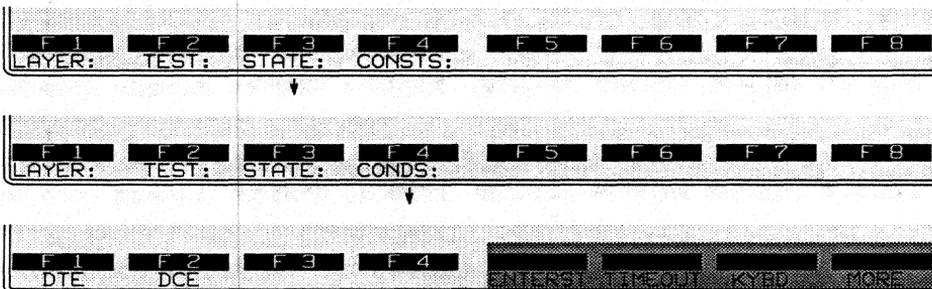

Figure 40-4 The softkeys for *DTE* and *DCE* are used to monitor ISDN protocol events once *Layer: 3* has been entered on the Protocol Spreadsheet.
- A group of conditions and actions at Layer 3 on the Protocol Spreadsheet that facilitate ISDN programming. Figure 40-4 shows the softkey path to the first rack of condition softkeys when the Q.931 package is loaded in at Layer 3 and a LAYER: 3 programming block has been opened on the spreadsheet.
When the Q.931 personality package is loaded in (via the Layer Setup screen), a set of conditions checks DTE and DCE leads both in monitor and emulate modes. This set of conditions is accessed by the DTE and DCE selections on the first rack of condition softkeys at Layer 3. See Figure 40-4.